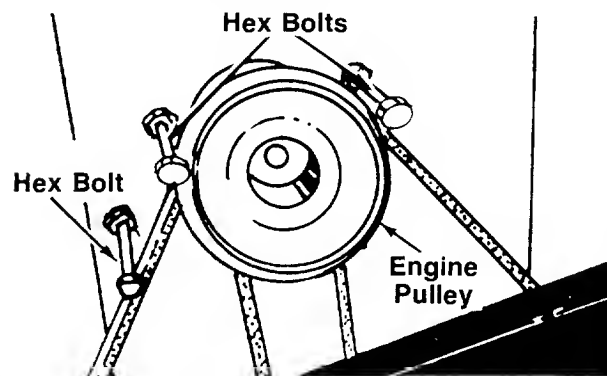

FIGURE 20.
Figures 20 and 23 through 25 are shown with the unit tipped up for clarity. It is not necessary to tip the unit to remove the belts.
2. Remove the three hex bolts (belt keepers) from the engine pulley belt guard. See figure 20.
Make certain hex bolts are reassembled as shown in figure 20.
3. Remove the hex bolts (belt keepers) from the engine pulley belt guard. Refer to figure 20.